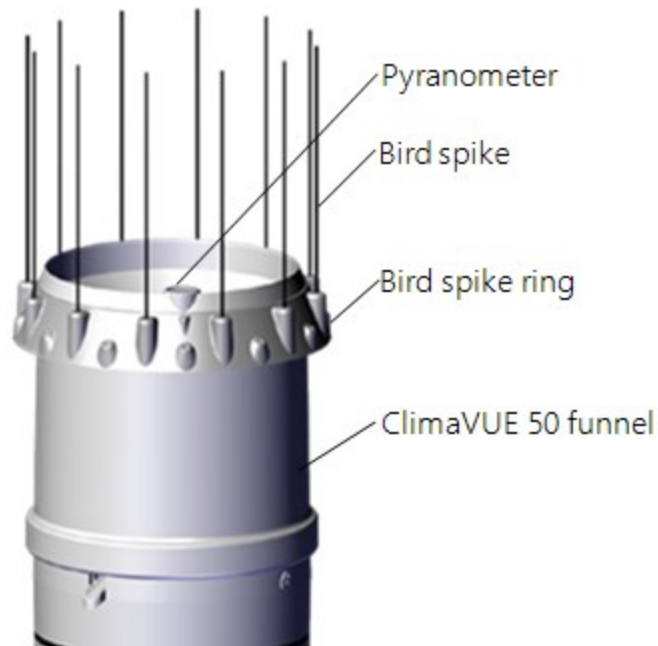

FIGURE 7-7. Bird-spike kit mounted properly
- Position the ring on top of the ClimaVUE 50 with the pyranometer aligned with the triangle between two spikes (FIGURE 7-7 (p. 20)); this will limit spike shadows on the sensor.
7. Press finished bird deterrent onto the ClimaVUE 50 funnel to at least the depth shown in FIGURE 7-7 (p. 20).